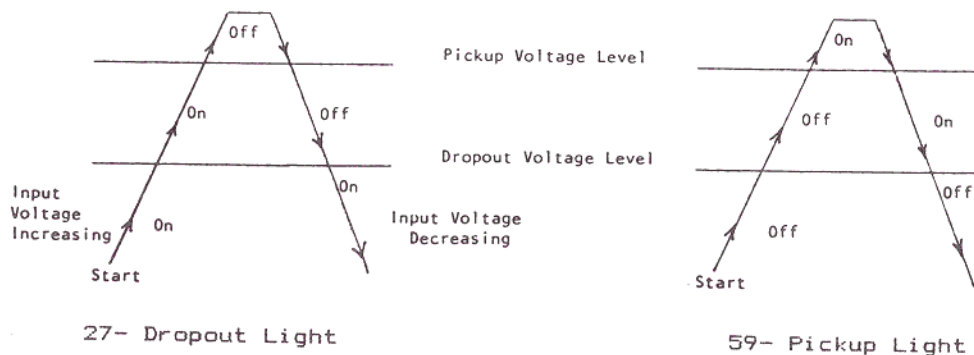

Figure 1: Operation of the Indicating Lights for the Type 27/59
The Type 27/59 provides an led indicator for each function. The indicator labelled DROPOUT lights when the input voltage falls below the voltage setting of the under-voltage (27) unit. The indicator labelled PICKUP lights when the input voltage rises above the voltage setting of the overvoltage (59) unit. Both led indicators are self-resetting when the voltage returns to "normal". The definition of pickup and dropout as used in this book and the action of the indicators is illustrated in Figure 1.